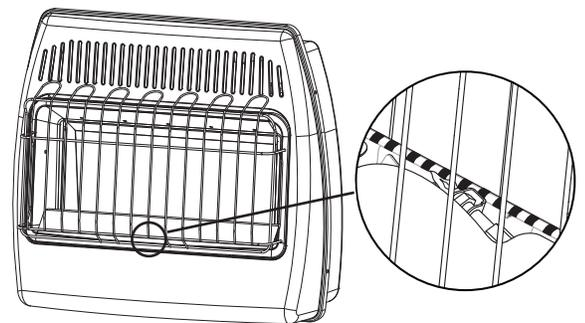

Fig. 24 - Pilot Flame Location
6. With control knob depressed, push down on the ignitor button until the pilot lights. The pilot is visible centered below the main burner, behind the front grill.. (See Fig. 24 on page 19)
7. Keep control depressed for (30) seconds after pilot lights. Release control knob.
6. With control knob depressed, push down on the ignitor button until the pilot lights. The pilot is visible centered below the main burner, behind the front grill. (See Fig. 24)